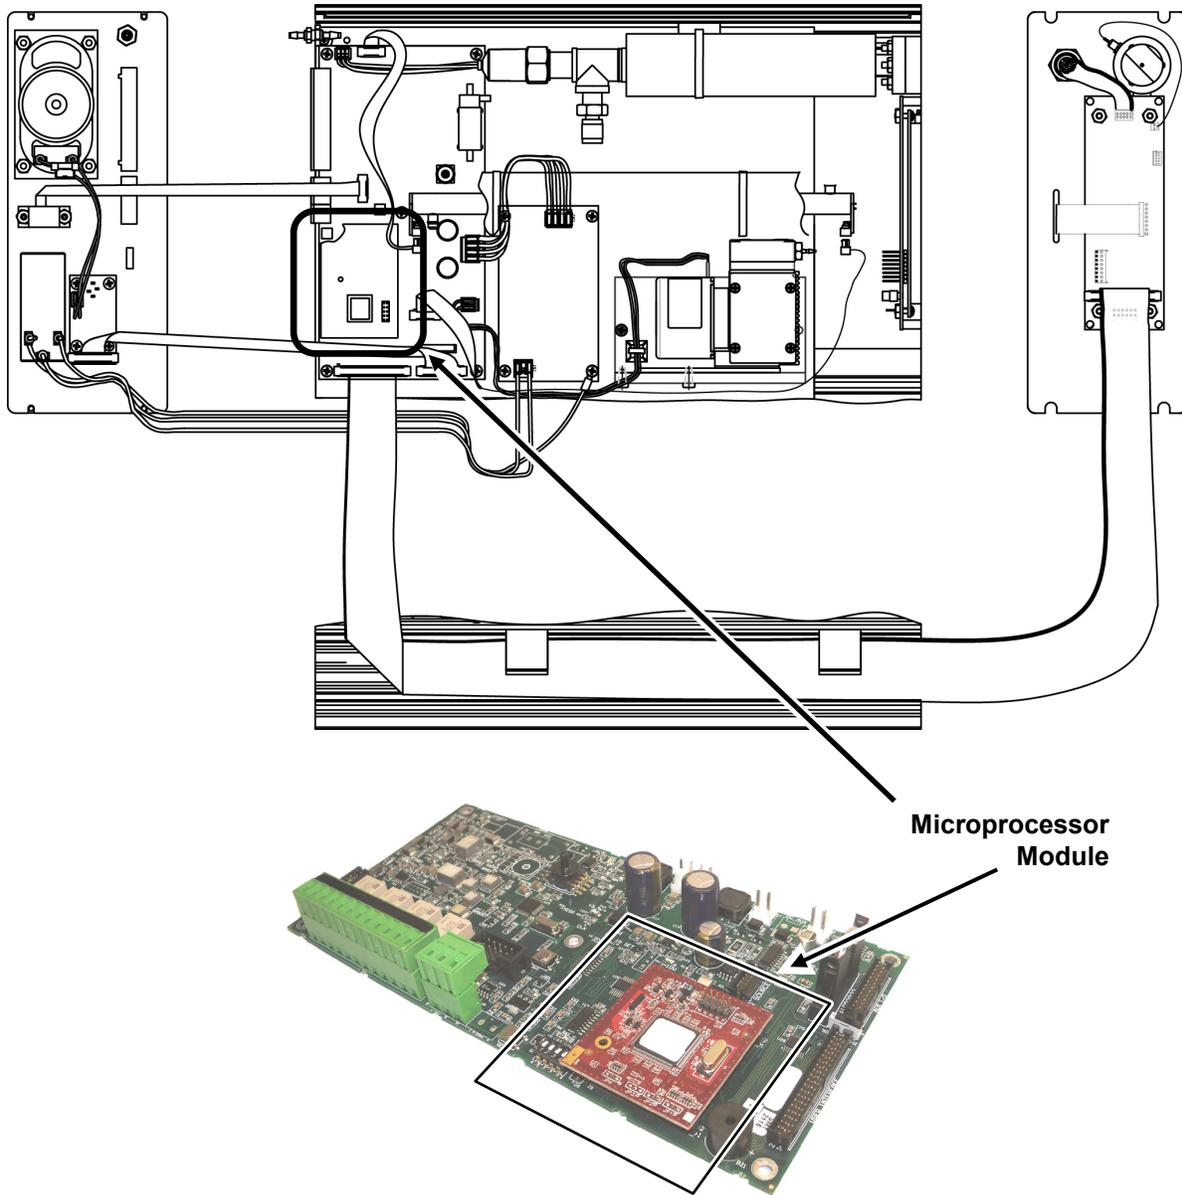

Figure 3. Location of Microprocessor Module Inside the H25-IR Housing
2. Locate the red microprocessor module, socketed on the bottom right side of the main circuit board. Refer to Figure 3.